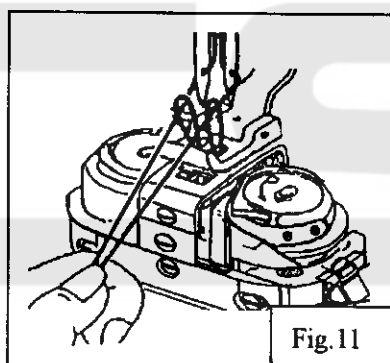

Fig.11
7. Threading of bobbin thread (Fig.11):
While holding the needle thread by left hand, rotate the hand wheel one turn by right hand. By pulling up the needle thread, the bobbin thread will be lifted. Close the slide plate (Fig.11)